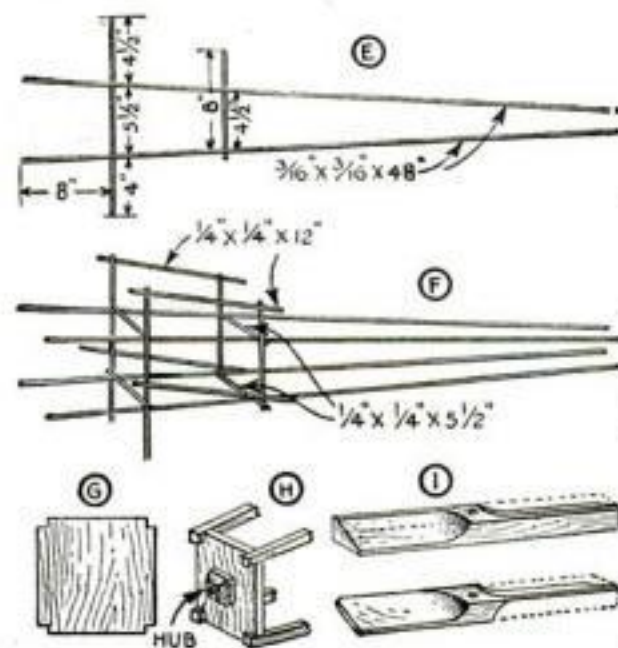

Fig. 2. First steps in building a model airplane kite, and propeller and hub details
**A** GREATER but far more interesting problem is the making of a kite in the form of a model airplane. The framework of the fuselage, which is the central body of the airplane, is made up of four spruce sticks  $\frac{3}{16}$  by  $\frac{3}{16}$  by 48 in.; two front uprights  $\frac{1}{4}$  by  $\frac{1}{4}$  by 14 in. and two rear uprights  $\frac{1}{4}$  by  $\frac{1}{4}$  by 8 or 9 in. (E and F, Fig. 2).
After the sticks are securely lashed together, they should receive a good coat of shellac at the joints. Now two pieces (G, Fig. 2) should be made of  $\frac{1}{4}$ -in. pine, the one for the front end  $3\frac{1}{2}$  in. square, and a
An adjustable plant support made from a piece of wire 2 ft. long or less and a single stake is illustrated in Fig. 1. A three-stake compartment support (Fig. 2) is better for plants such as peonies, which send up frail stems with heavy foliage at the top.